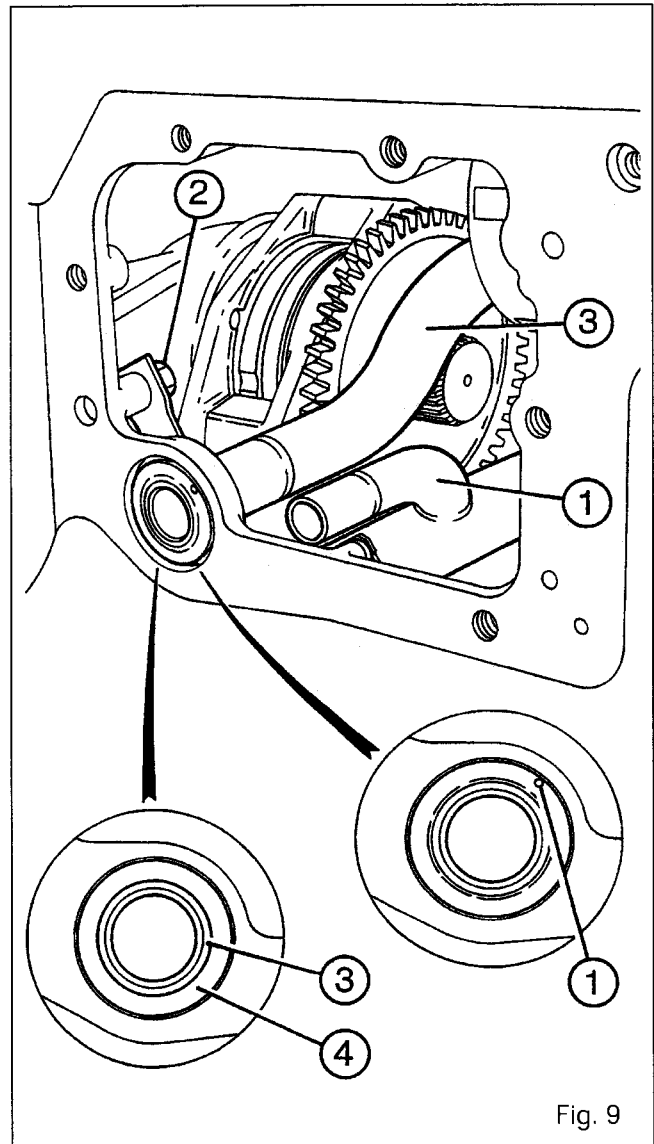

Fig. 9
- If it is necessary to remove the suction pipe **(1)**, remove the bolt **(2)** (Fig 9). Orient the pipe as required and remove it by manoeuvring it through the opening in the cover.
11. Fit the suction pipe (1) if it was removed. Tighten the bolt (2). Fit the booster pipe (3) with the notch in the dowel (1). Lightly smear the seal (4) with miscible grease and position it on the flange of the pipe (3) (Fig. 9).